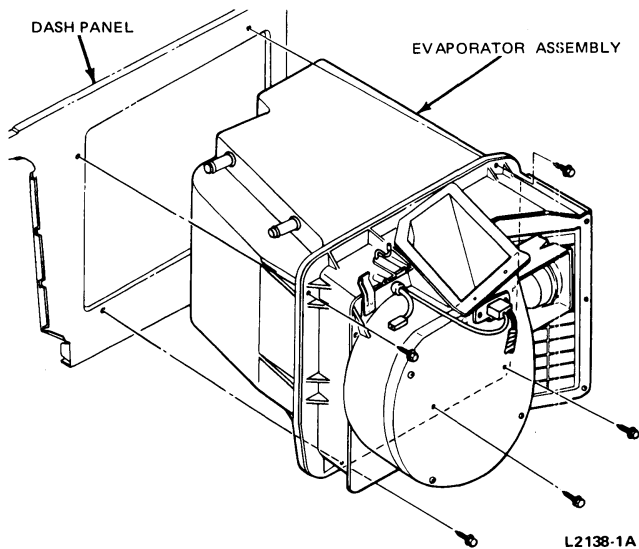

FIG. 25 Manual A/C System Header and Dash Panel Installation
12. Remove evaporator assembly from dash (5 screws) (Fig. 25).